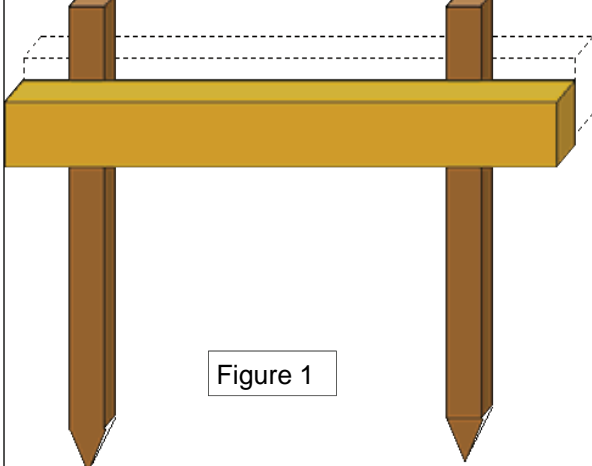

Figure 1
- Attach a plank of wood (slightly wider than the eventual width of the boardwalk) to either side of two stobs. The stobs should be sandwiched between the two planks of wood and will form an H-shaped section (see Fig. 1).